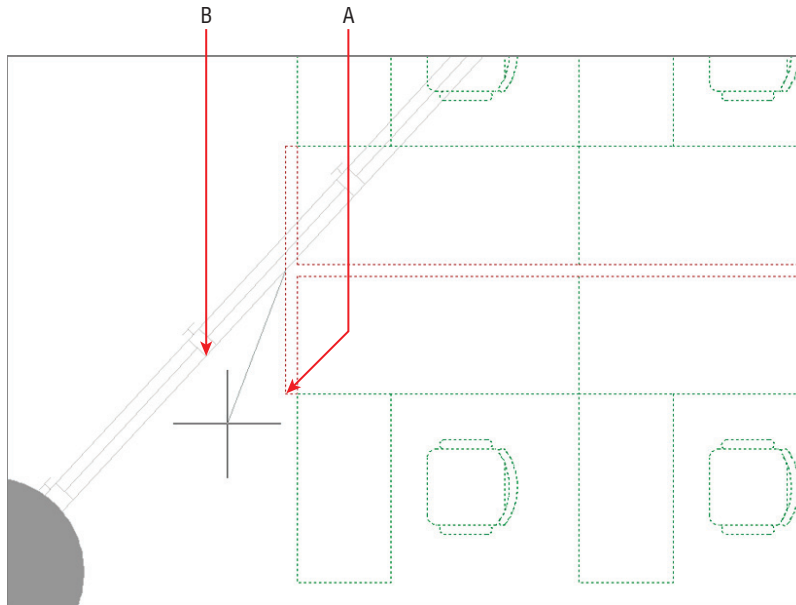

FIGURE 4.17 Rotating with the Reference option
7. Click endpoints A and B as shown in Figure 4.17 to specify the second point of the reference angle and the new angle. The furniture group rotates so that it is parallel and centered on the window wall.